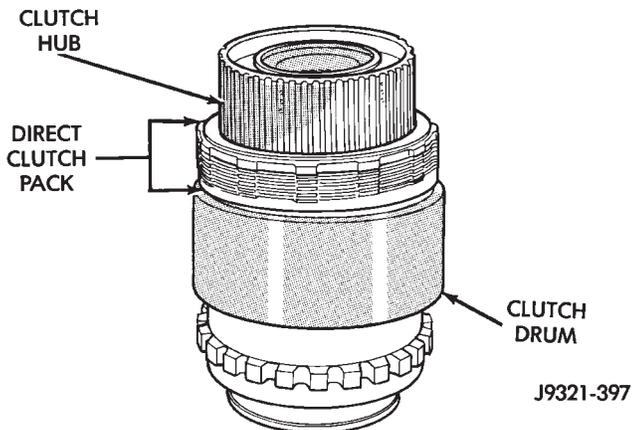

Fig. 250 Direct Clutch Pack And Clutch Hub Installation
(19) Install clutch hub and clutch pack on direct clutch spring (Fig. 250). **Be sure hub is started on sun gear splines before proceeding.**